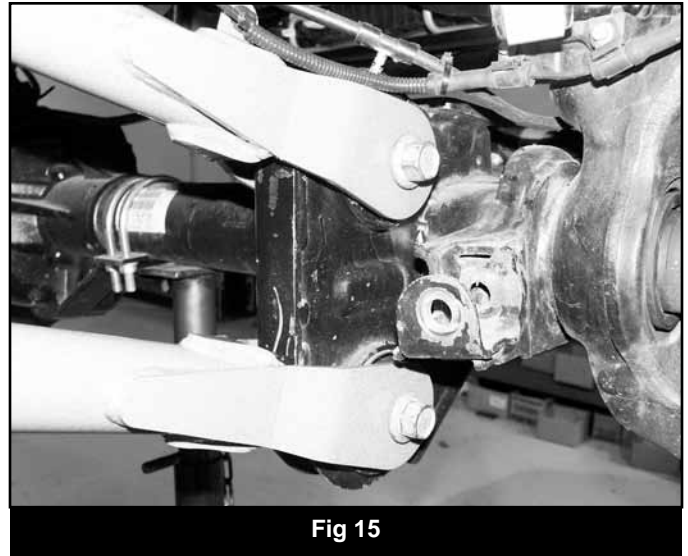

Fig 15
34. Attach the axle end of the control arm with the original hardware. Leave hardware loose. (Fig. 15)